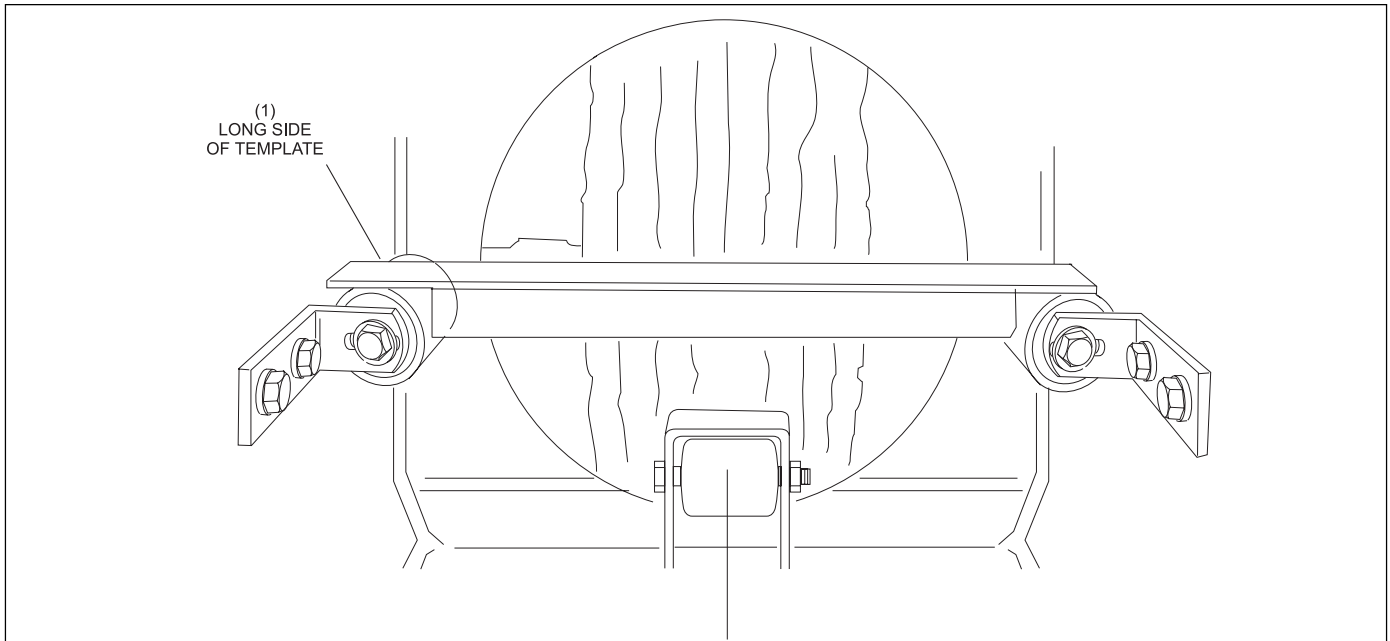

Figure 9. Roller Adjusting Template
NOTE: The Steel Guide Roller Adjusting Template, used in this adjustment, is supplied with Ballworx. The template is attached to the left side of the back panel with two (2) wing nuts. Refer to Figure 9.